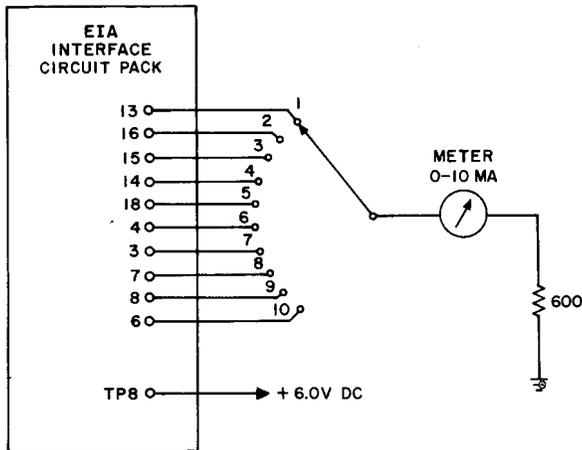

Fig. 39A — EIA Interface Test Circuit
7.07A Output Clipping Diode Short Test: With the circuit pack connected to the suggested test circuit shown in Fig. 39A, connect +6.0 (± 0.3) Vdc to test point 8 on the circuit pack. Measure the current drawn at each output terminal by rotating the switch through positions 1 to 10. At each position of the switch, the current drawn should be less than 1.5 mA dc.